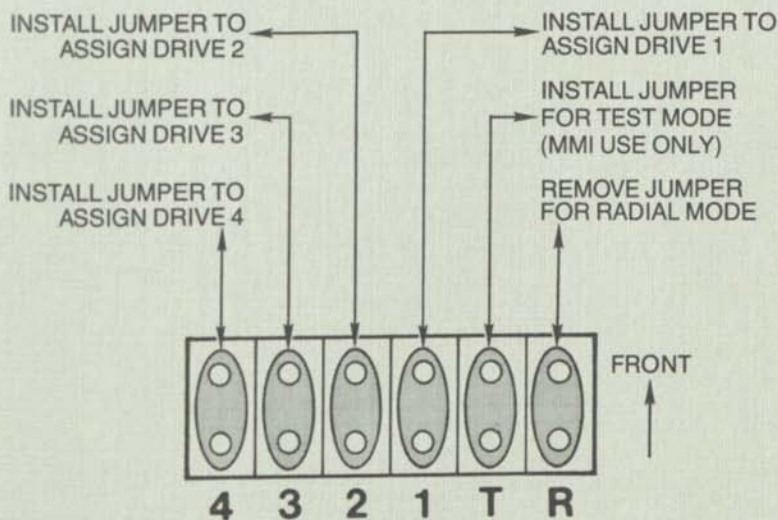

Figure A-1. Jumper Options (For 5.25-Inch PCBA)
- Although the same jumper options exist (drive select, radial mode and test mode), the pins that must be jumpered are different. Figure A-1 shows where to install jumper plugs for the various options.